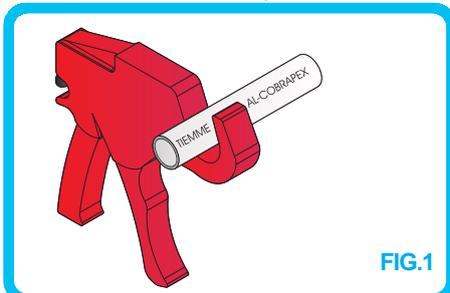

FIG.1
*- First, cut the pipe to the desired size by using a pipe-cutter, making sure that pipe cutting is perpendicular to pipe axis (fig. 1).*